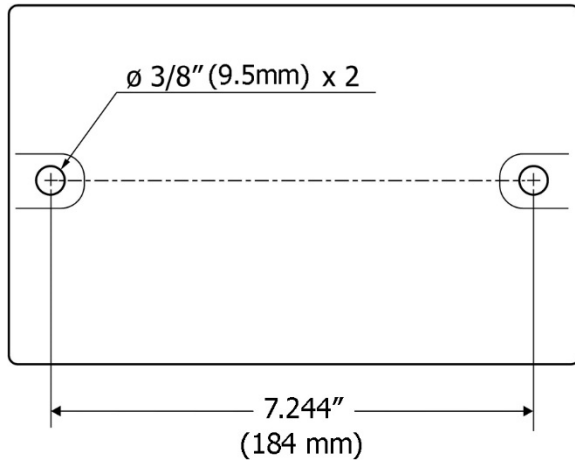

Figure 2: mounting holes
1. Align mounting holes on grinder with predrilled holes in a bench or grinder stand. Refer to Figure 2 for hole spacing.